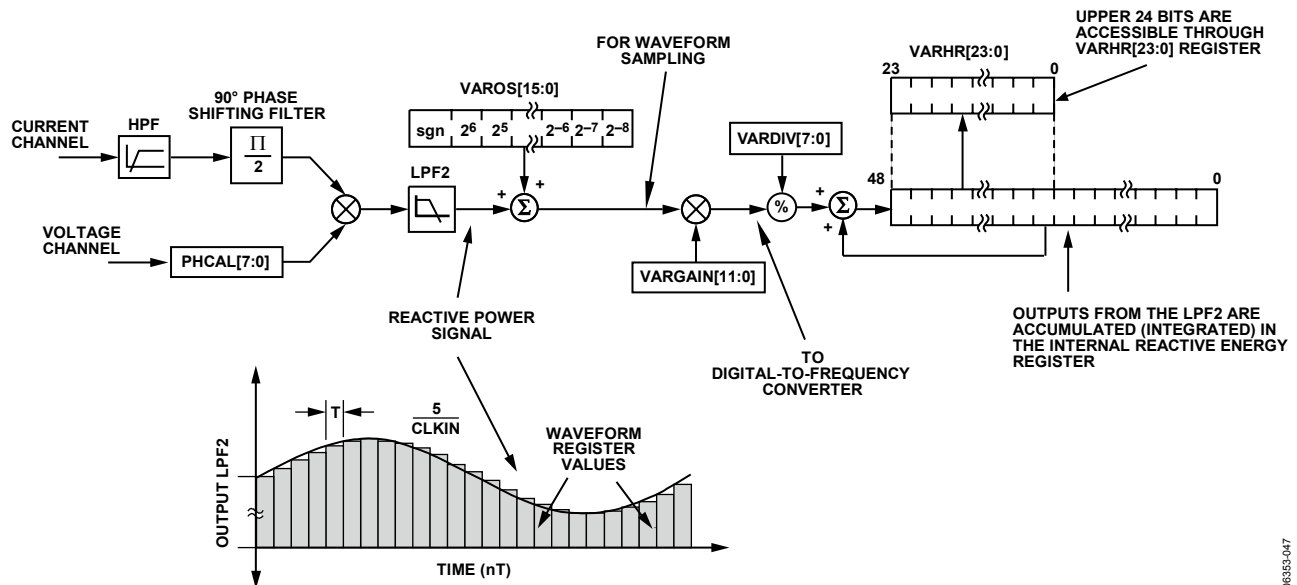

Figure 71. Reactive Energy Calculation
The instantaneous reactive power signal $q(t)$ is generated by multiplying the voltage and current channels. In this case, the phase of the current channel is shifted by 90°. The dc component of the instantaneous reactive power signal is then extracted by a low-pass filter to obtain the reactive power information (see Figure 71).
Figure 71 shows the signal processing chain for the ADE7569/ADE7169 reactive power calculation. As explained in the Reactive Power Calculation for the ADE7569/ADE7169 section, the reactive power is calculated by applying a low-pass filter to the instantaneous reactive power signal. Note that, when reading the waveform samples from the output of LPF2, the gain of the reactive energy can be adjusted by using the multiplier and by writing a twos complement, 12-bit word to the VAR gain register (VARGAIN[11:0]). Equation 25 shows how the gain adjustment is related to the contents of the watt gain register.
The ADE7569/ADE7169 also incorporate a reactive power offset register (VAROS[15:0]). This is a signed, twos complement, 16-bit register that can be used to remove offsets in the reactive power calculation (see Figure 71). An offset can exist in the reactive power calculation due to crosstalk between channels on the PCB or in the IC itself. The offset calibration allows the contents of the reactive power register to be maintained at 0 when no power is being consumed.
The discrete time sample period (T) for the accumulation register in the ADE7569/ADE7169 is $1.22 \mu\text{s}$ (5/MCLK). As well as calculating the energy, this integration removes any sinusoidal components that may be in the active power signal. Figure 71 shows this discrete time integration or accumulation. The reactive power signal in the waveform register is continuously added to the internal reactive energy register.
As shown in Figure 71, the reactive power signal is accumulated in an internal 49-bit signed register. The reactive power signal can be read from the waveform register by setting the WAVMODE register (0x0D) and setting the WFSM bit in the Interrupt Enable 3 SFR (MIRQENH, 0xDB). Like the current and voltage channel waveform sampling modes, the waveform data is available at sample rates of 25.6 kSPS, 12.8 kSPS, 6.4 kSPS, or 3.2 kSPS.